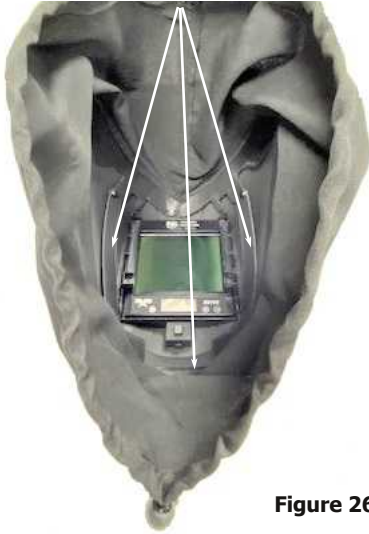

Figure 26a
1. Set Quick Change Face Seal inside Headtop (Fig. 26a).